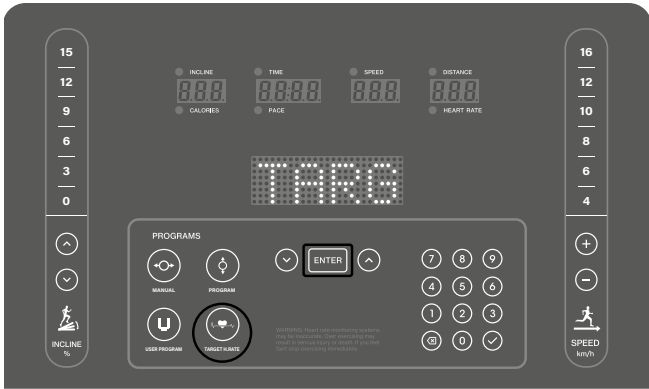

FIGURE 17
1. Select TARGET H. RATE (Figure 17).